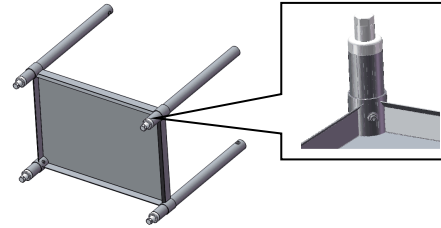

Fig.1
3. Insert the leg into the socket situated at each corner of the under shelf [Fig.1]